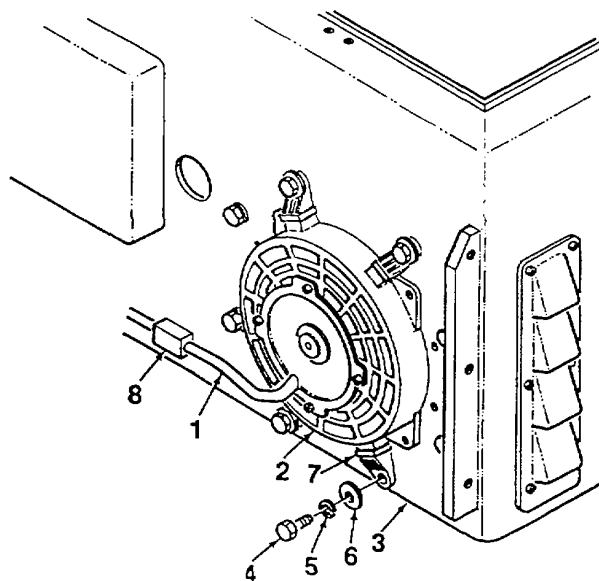

Figure 4-29. Oil Cooler Fan
1. Disconnect oil cooler fan electrical cable (1, Figure 4-29).
2. Remove oil cooler fan (2) from APU enclosure (3) by removing four screws (4), lockwashers (5), and washers (6).
3. Use care to ensure that mounting clips (7) do not separate from fan and become lost.
4. Remove electrical shielding (8) from fan cable only if replacement is required.
1. Mate oil cooler fan (2, Figure 4-29) to APU enclosure (3). Secure using four screws (4), lockwashers (5), and washers (6).
2. Feed electrical cable (1) through hole in APU enclosure (3). Connect electrical cable and ty-wrap to secure.
**Ensure that electrical shielding (8) is replaced in original location (close to the fan) on fan cable.**
3. Install electrical shielding (8) on fan cable.